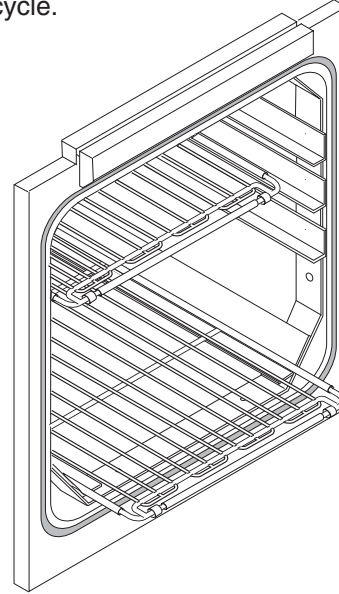

Figure 6-3. Slide Shelf Half Way Out of Chamber
2. Slide shelf half way out of sterilizer chamber (see Figure 6-3).